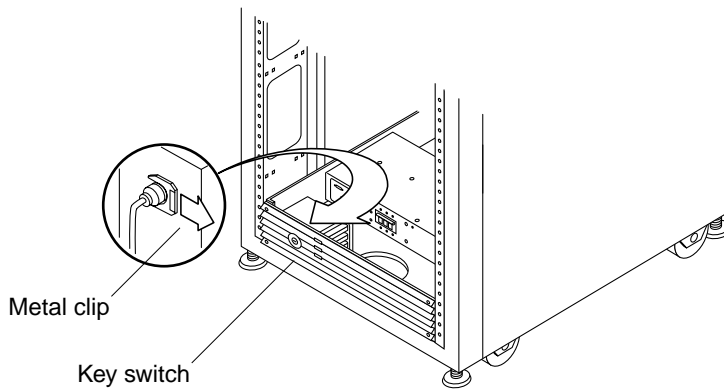

FIGURE 4-10 Removing and Replacing the Key Switch
2. Facing the back of the key switch on the inside of the system, use a pair of needle-nose pliers to slide out and remove the metal clip that secures the key switch to the system (FIGURE 4-10).
2. Facing the back of the key switch on the inside of the system, slide the metal clip onto the notch of the key switch body to secure it in place (FIGURE 4-10).